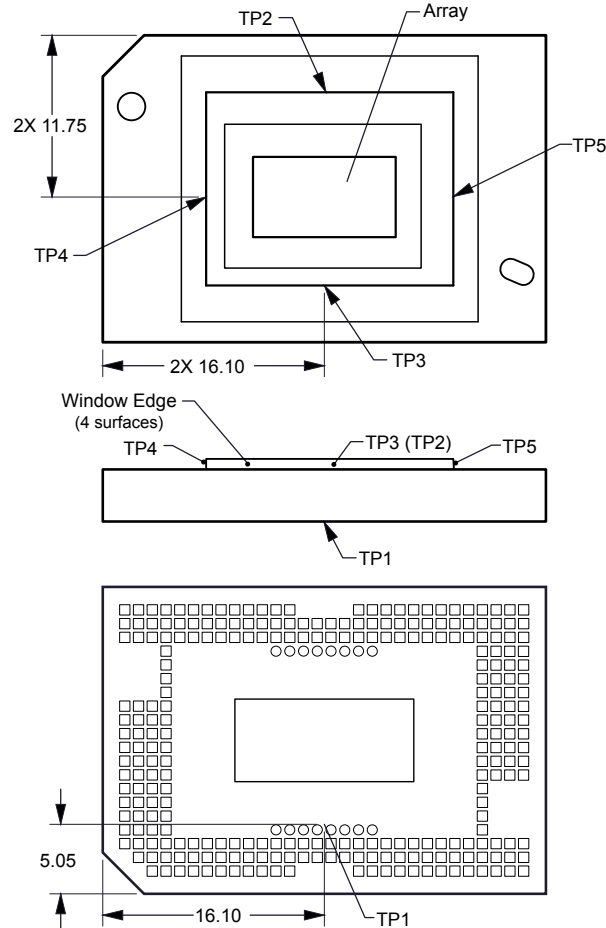

图 6-2. DMD Thermal Test Points
Micromirror array temperature cannot be measured directly, therefore it must be computed analytically from measurement points on the outside of the package, the package thermal resistance, the electrical power, and the illumination heat load. The following equations show the relationship between array temperature and the reference ceramic temperature, thermal test TP1 图 6-2 shown above:
- T_{CERAMIC} = Measured ceramic temperature ($^{\circ}\text{C}$), TP1 图 6-2
- $R_{\text{ARRAY-TO-CERAMIC}}$ = Thermal resistance of package specified in 节 5.5 from array to ceramic TP1 图 6-2 ($^{\circ}\text{C}/\text{W}$).
- Q_{ARRAY} = Total DMD Power (electrical + absorbed) on the array (W)
- $Q_{\text{ELECTRICAL}}$ = Nominal electrical power (W)
- Q_{INCIDENT} = Incident illumination optical power (W)
- $Q_{\text{ILLUMINATION}}$ = (DMD average thermal absorptivity \times Q_{INCIDENT}) (W)